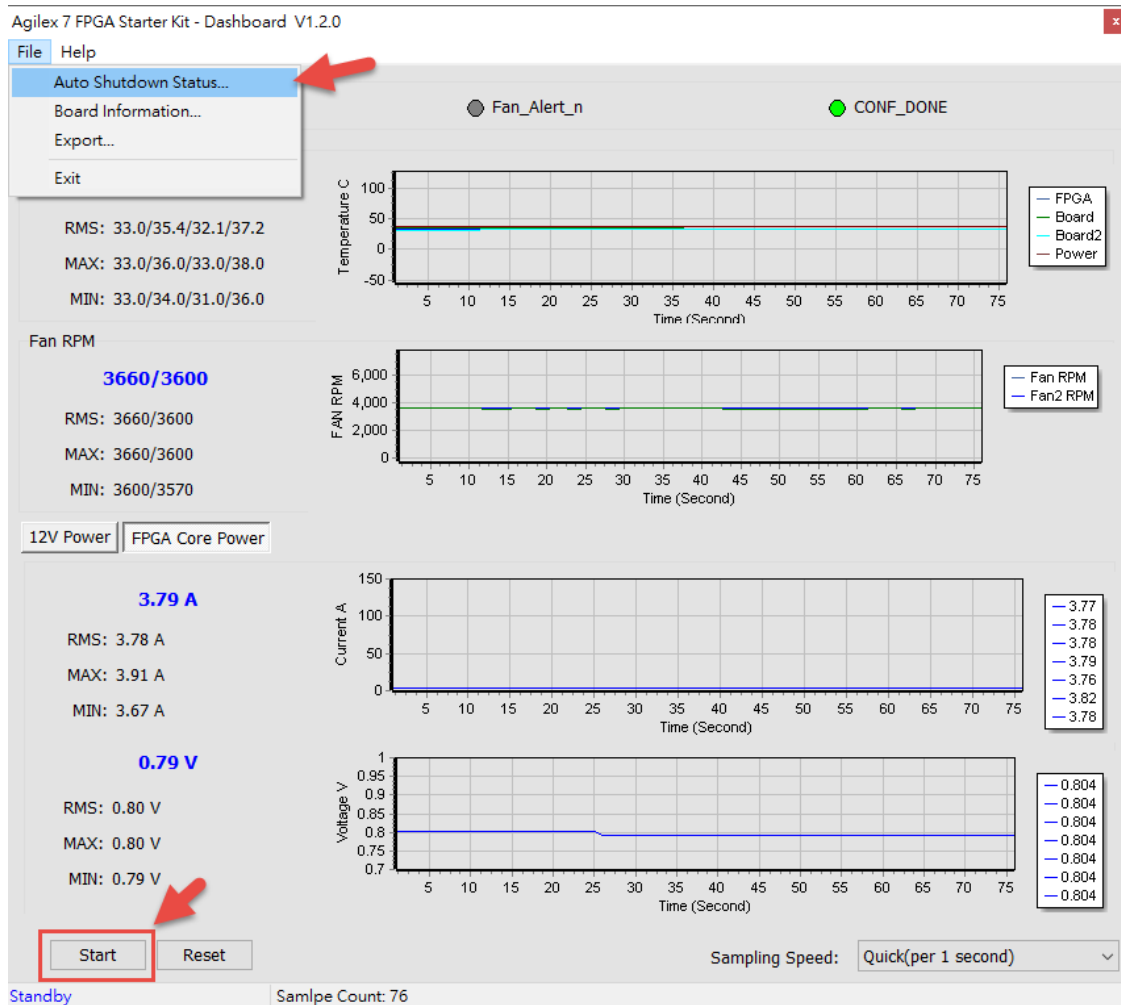

Figure 3-16 File Menu Options
- **File Menu:** The user can click “File” menu at the top left of the GUI (See **Figure 3-16**) and some options such as board information and status export will appear. Note that to activate these functions, you will need to **stop** obtaining the board status (i.e. Don't Press “Start” button or Press “Stop” button) in the GUI. Detailed introductions of these functions are described in below.